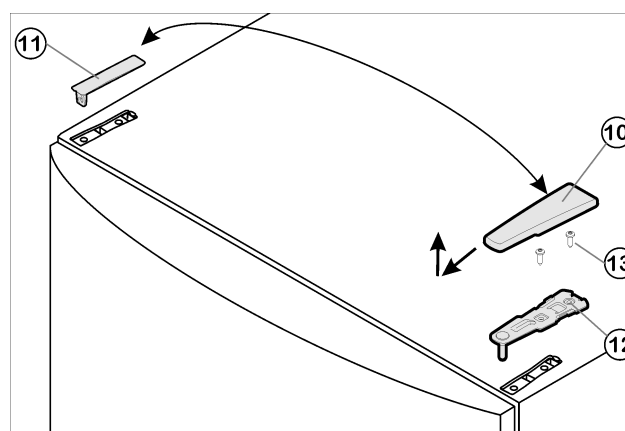

Fig. 8
- Pull cover Fig. 8 (10) forward and upwards to remove.
- Lift off cover Fig. 8 (11).
- Unscrew upper bearing bracket Fig. 8 (12) (2 x Torx® 25) Fig. 8 (13) and pull it upwards to remove.
- ▶ Insert the upper bearing bracket *Fig. 8 (12)* on the new hinge side into the door.
- ▶ Tighten the upper bearing bracket (**to 4 Nm**)(2 x Torx® 25) *Fig. 8 (13)*. Make preliminary holes (optional) or use a cordless screwdriver.
- ▶ Snap both cover *Fig. 8 (11)* and cover *Fig. 8 (10)* into place on the opposite side.